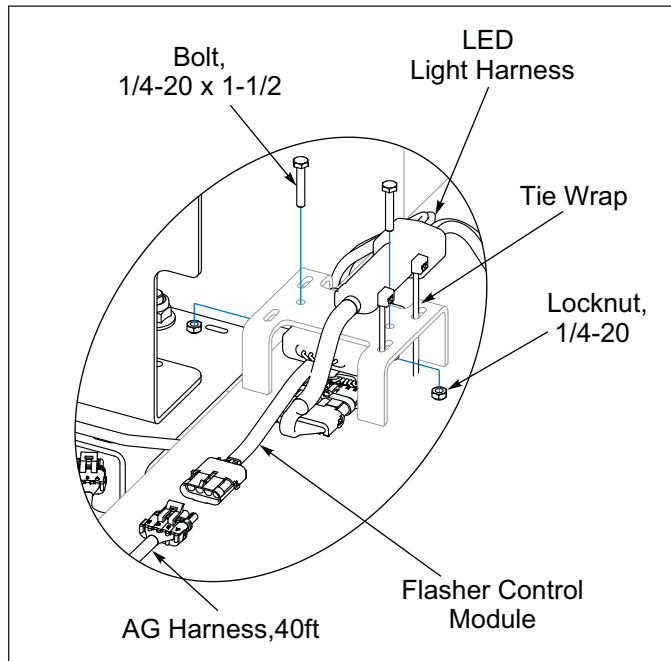

Figure 2-38: Flasher Control Module
3. Attach the Flasher Control Module to the Module Bracket on the RH Frame Inner rear tube using two 1/4-20 x 1-1/2 Bolts and Locknuts. See **Figure 2-38**.